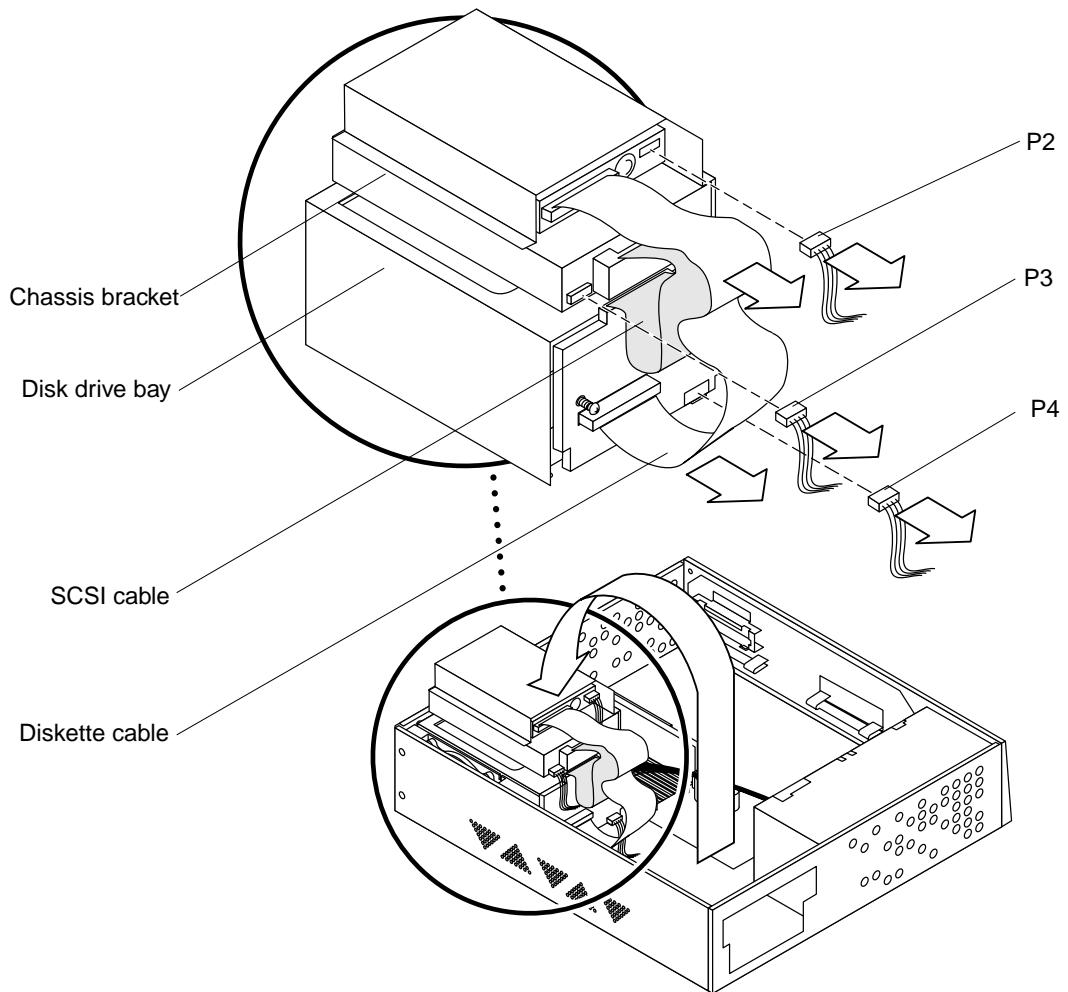

FIGURE 9-6 Placing the Chassis Bracket on Top of the Disk Drive
- 3. Disconnect the following from the chassis bracket as follows (FIGURE 9-6):**